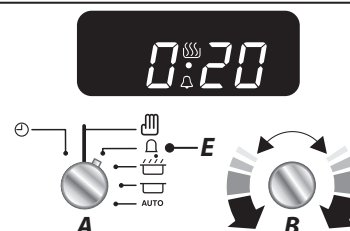

Fig. 3.3
2. Turn the **Adjusting (B)** knob to set the amount of time required. Minimum time 1 minute (**Fig. 3.3**).
3. Turn the **Timer (A)** knob back to the **Manual (D)** setting to see the current time and the 'Bell' symbol on the display.